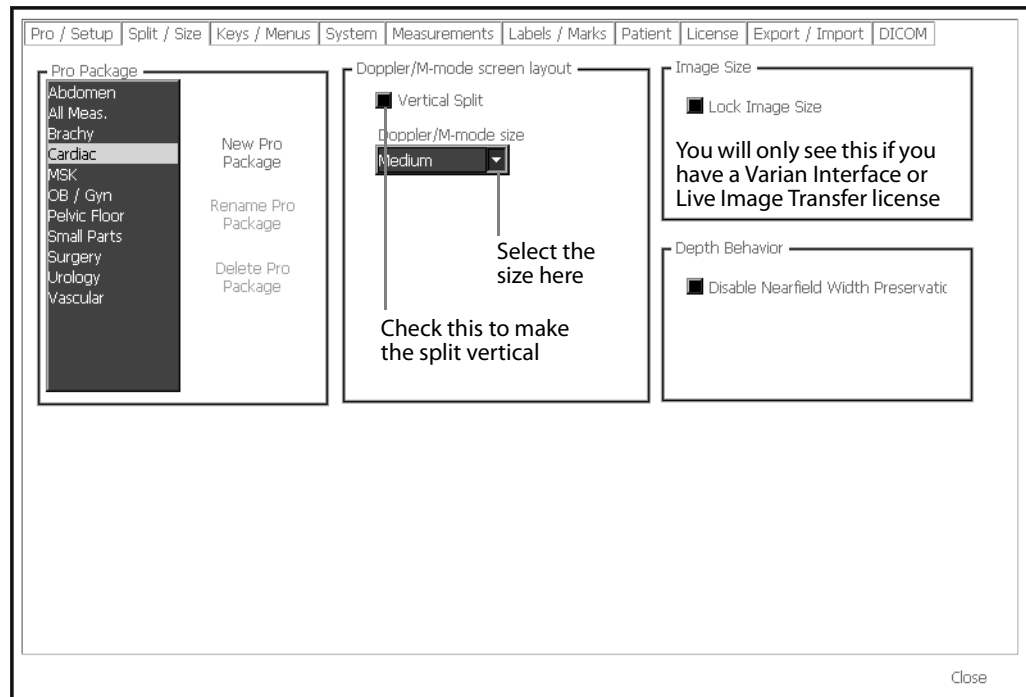

Figure 14-2. The Screen Layout Setup window.
**NOTE:** *If you have the VariSeed or Live Image Transfer licenses activated, the image size is locked by default for the Brachy Pro Package. See Fig 14-2.*